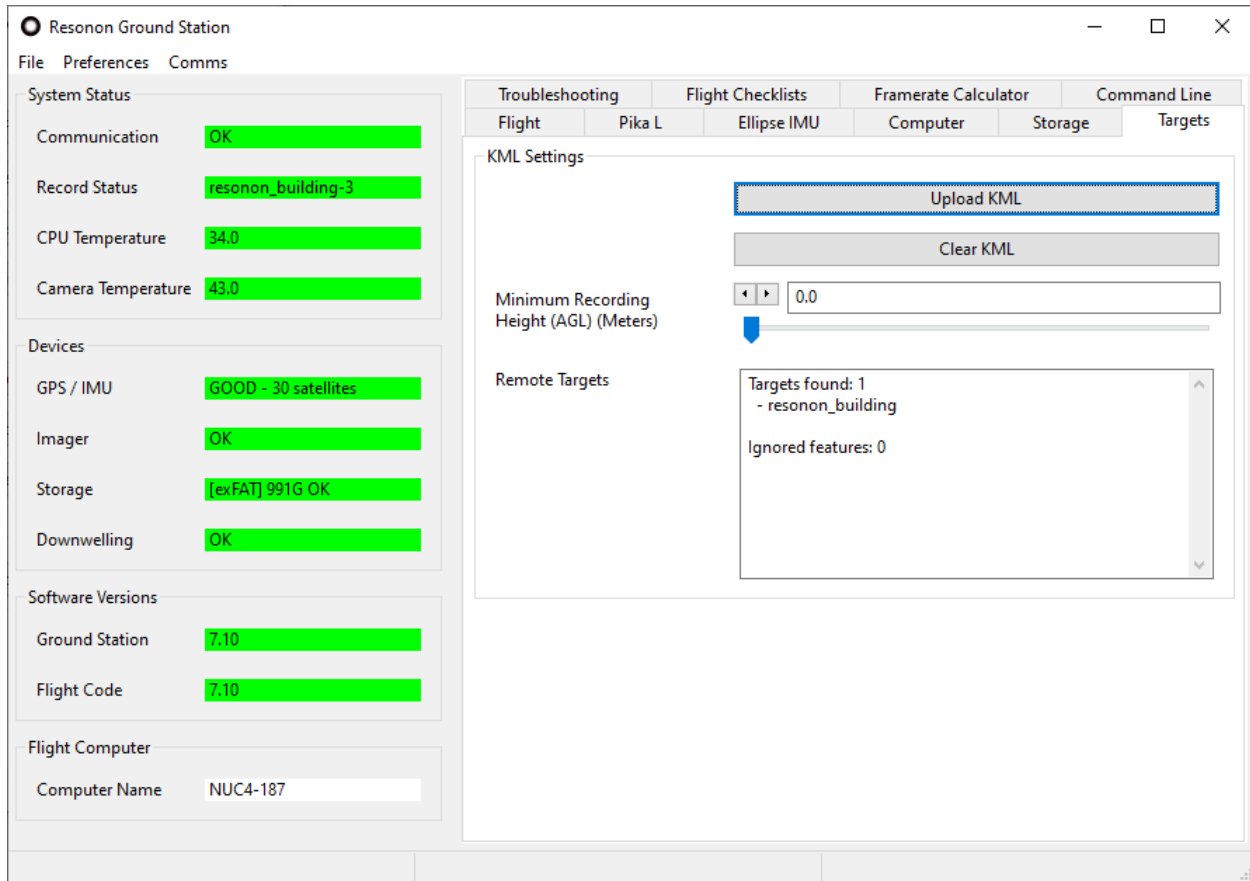

Fig. 3.17: The Targets Tab
The *Targets Tab* (Fig. 3.17) allows the operator to create, save, and upload target regions to the flight computer. These target regions define the areas over which the system will record data. When the aircraft enters a defined target area and is above the minimum height requirement, data recording is automatically started and ends when the aircraft leaves the target area. When data is recorded in a target region the name of the target region is reflected in the data folder name.
Note: In Fig. 3.17, the system's *Record Status* has changed from *Not Recording* to *resonon_building-3*, indicating the system is within the target KML file (*resonon_building.kml*) and is currently recording the third datacube from within that target area.
6. Upload the KML target file using to the flight computer using the **ResononGroundStation Upload KML** button shown in Fig. 3.17. A file dialog will be presented allowing you to select your saved KML file.
7. Examine the *Remote Targets* section of the *Targets Tab* (Fig. 3.17). Verify each target you defined is listed under *Targets found*. If a target is not shown, or if a target is listed under *Ignored features*, something is wrong with the uploaded target file. Fix it in **Google Earth** and try again. Features may be ignored if they were created as paths or points rather than polygons, for example.